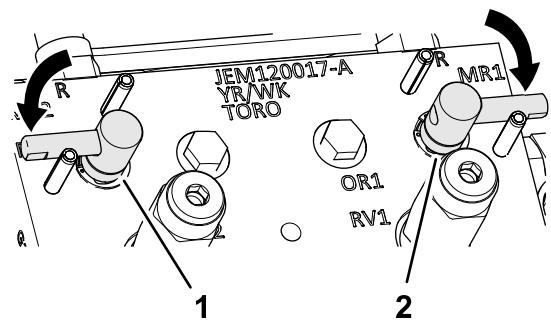

Figure 153
3. Move the backlap levers to the F (mow) position (Figure 153).